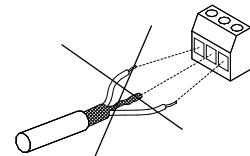

Fig. 38 Do not twist the screen ends
- Avoid terminating the screen by twisting the ends. See fig. 38. Use cable clamps or EMC screwed cable entries instead.